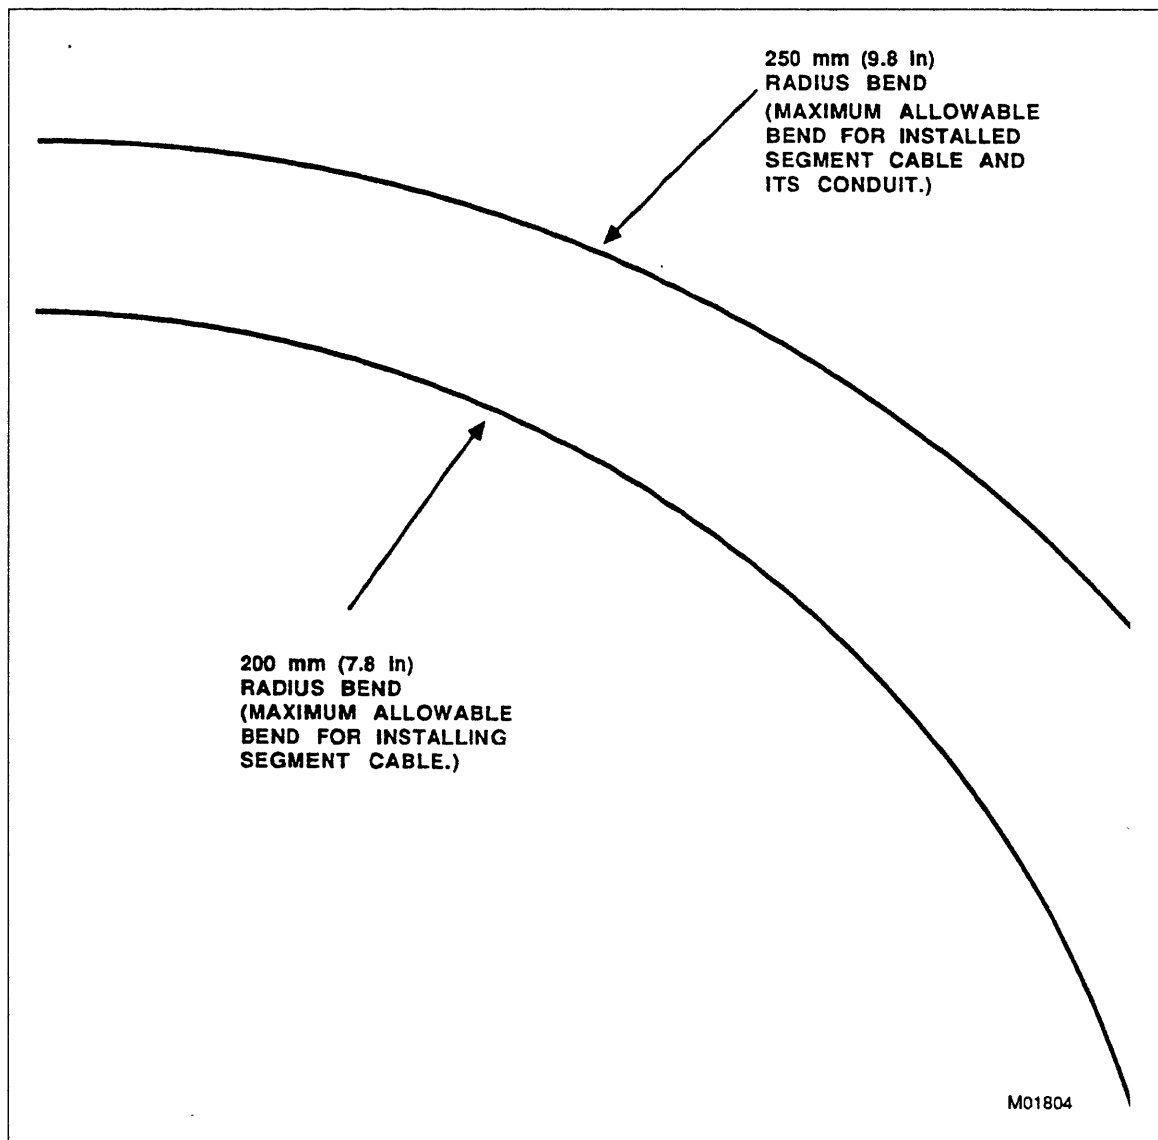

Figure 2-1. Maximum Bend Templates for Segment Cable and Conduit
- During installation, do not bend or coil the segment cable to less than a 200-mm (7.87-in) radius. See figure 2-1 for a full-size template.
- Ensure that bends in installed segment cable have at least a 250-mm (9.84-in) radius. See figure 2-1 for a full size template.
- Ensure that bends in conduit used to house segment cable have at least a 250-mm (9.84-in) radius. See figure 2-1 for a full size template.